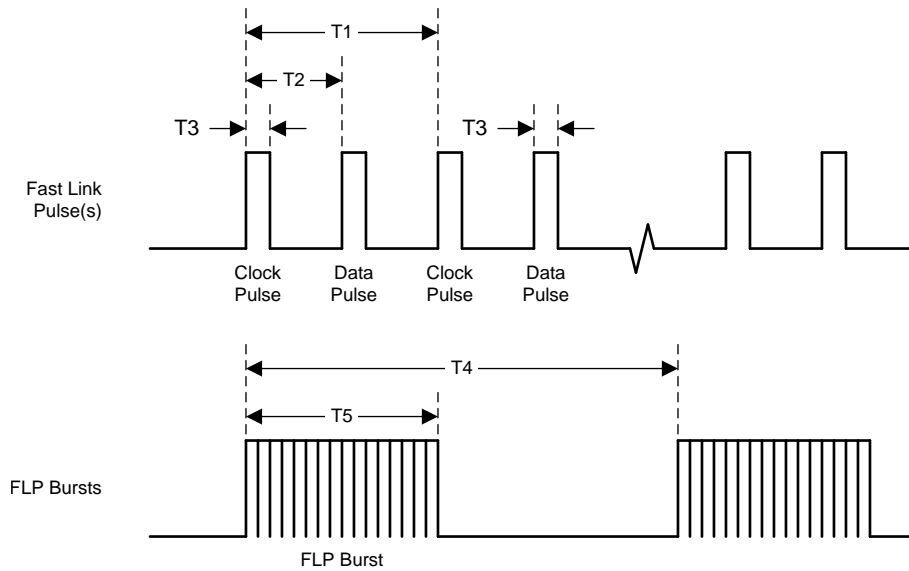

图 13. Fast Link Pulse Timing
- (1) Ensured by production test, characterization or design.
(2) See 图 13.